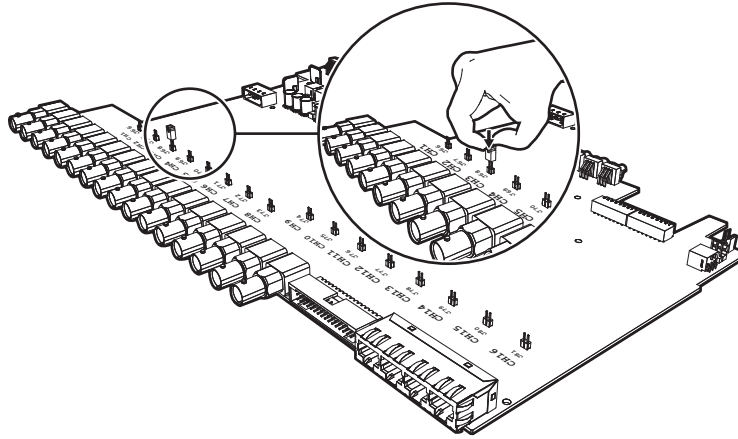

Figure 7. Installing the Jumpers for CE Compliance
4. Install the 16 jumpers on the pins; use one for each channel (refer to Figure 7). The pins are labeled J66 through J81.